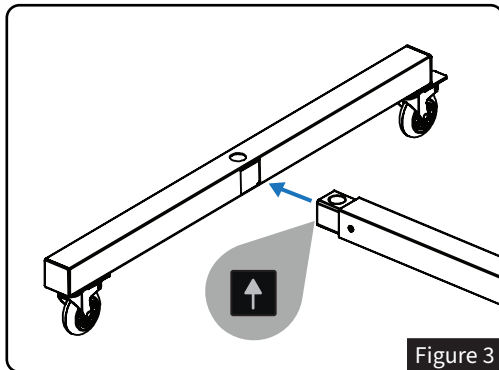

Figure 3
With the arrow on the End Tube (Part D) facing up, insert it into the Base Tube (B). See *Figure 3*.